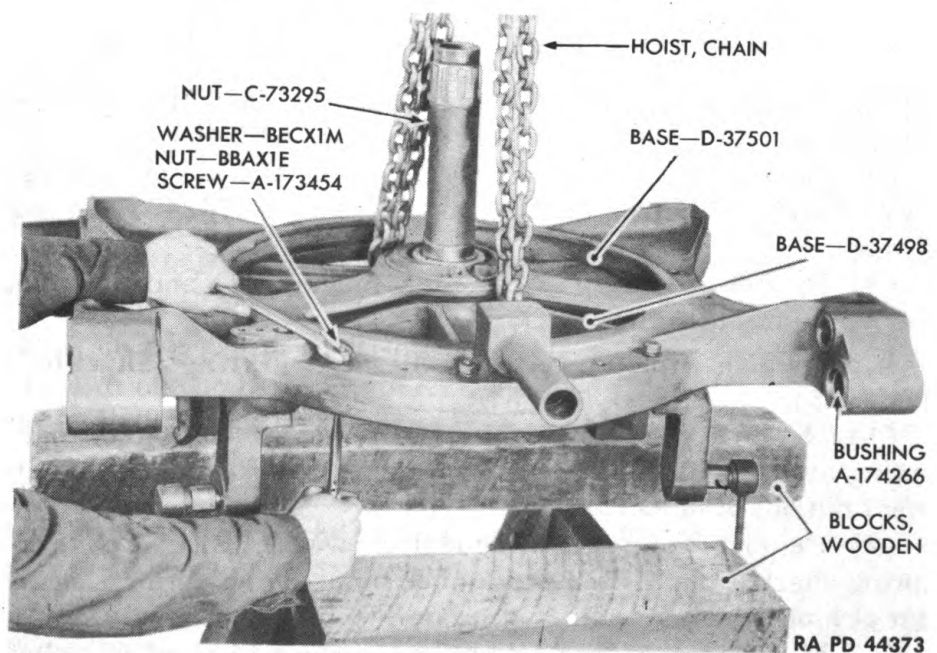
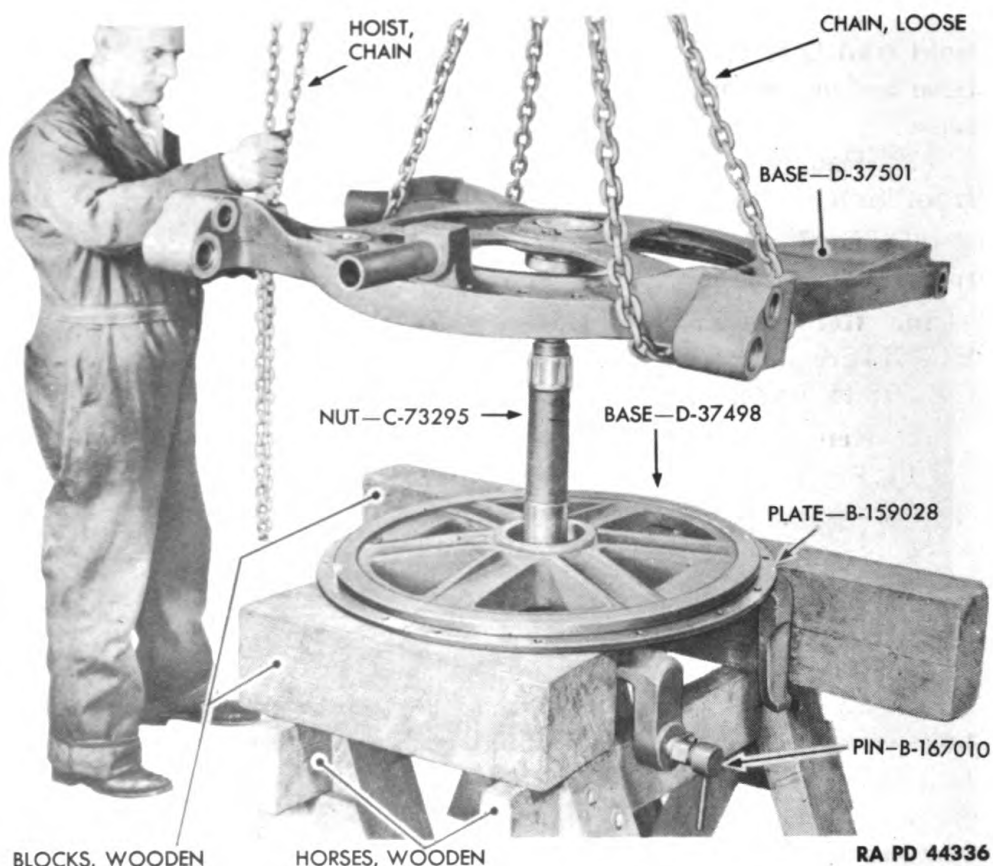
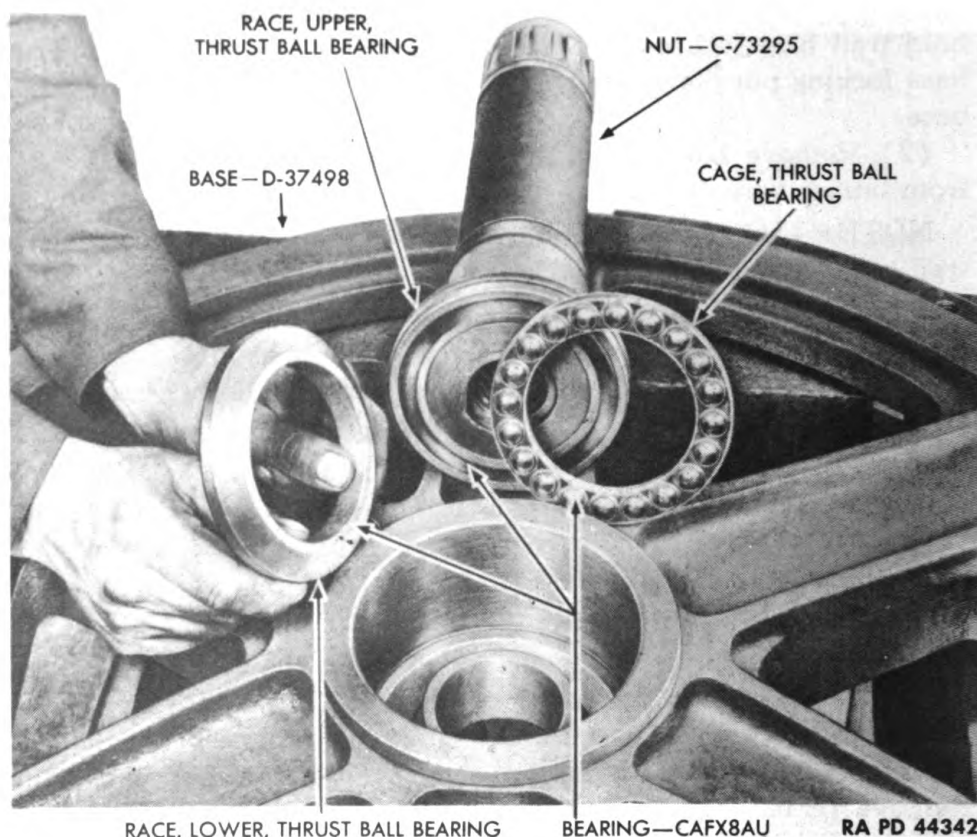

Figure 327—Removing Limber Base Screws
Figure 328—Lifting Limber Base Off Trail Base
Figure 329—Removing Limber Lifting Mechanism Nut
(1) Install chain hoist on limber and trail bases and raise them off the wood blocks so that all screws are accessible. (**NOTE:** If chain hoist is not available, use suitable rigging and a crane.) Trail base retaining plate will drop slightly but should not be removed at this time. Remove remaining ten screws A173454, nuts BBAX1E, and lock washers BECX1M that hold limber base D37501 to trail base D37498 (fig. 327). (Six screws, nuts, and washers were removed when hose straps A174025 and A174030 were removed.)
(2) Lower limber and trail bases onto wood blocks. Remove six lubrication fittings CLDX1A from limber base. Remove pipe plug CPMX1AA from limber base.
(3) Lift limber base off trail base and over limber lifting mechanism nut (fig. 328).
(4) Press four drawbar hinge pin bushings A174266, if worn, out of limber base (fig. 327).
p. Remove Limber Lifting Mechanism Nut (fig. 329).
(1) Lift out limber lifting mechanism nut C73295 with upper race of thrust ball bearing (light press fit on nut); then tap upper race off nut.
(2) Lift thrust ball bearing cage and thrust ball bearing lower race of bearing CAFX8AU out of trail base. **NOTE:** Thrust ball bearing lower race is beveled to fit the bevel in trail base.
q. Remove Trail Base Retaining Plate (figs. 328 and 333).